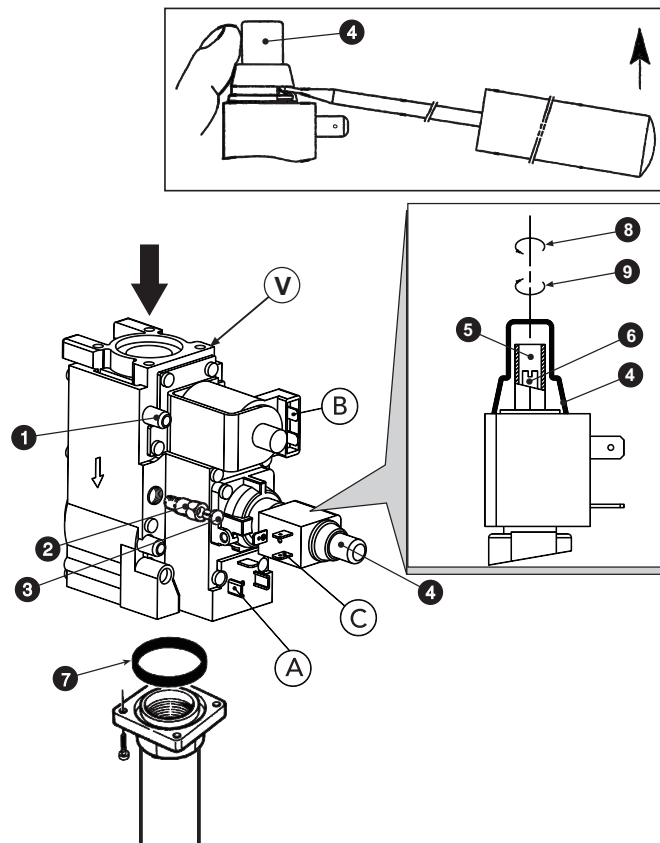

fig. 4 - Gas conversion
Pressure adjustment operations must be carried out with the boiler working, using the pressure regulator on the 2-stage gas valves (see fig. 4)
3. Remove the protection cap of the pressure regulator 4 of fig. 4.
1. Turn the control thermostat knob slowly clockwise to the 1st click; the gas valve will thus be supplied only on connections A and B (see fig. 4).
2. Turn the screw 5 of fig. 4, checking that the pressure matches the values given in the technical data table in sec. 5.3.
1. Turn the control thermostat knob to maximum; the gas valve will now be supplied only on connections A, B and C (see fig. 4).
2. Turn the screw 6 of fig. 4, checking that the pressure matches the values given in the technical data table in sec. 5.3.
2. Remove the small cap 3 (fig. 4) from the gas valve, screw the ignition "STEP" regulator 2 (contained in the conversion kit) onto the valve and refit the cap 3 on the regulator.
Carry out the same operations described above, making sure to remove the ignition "STEP" regulator 2 of fig. 4 of the gas valve; the cap 3 of fig. 4 must be fitted directly on the valve.